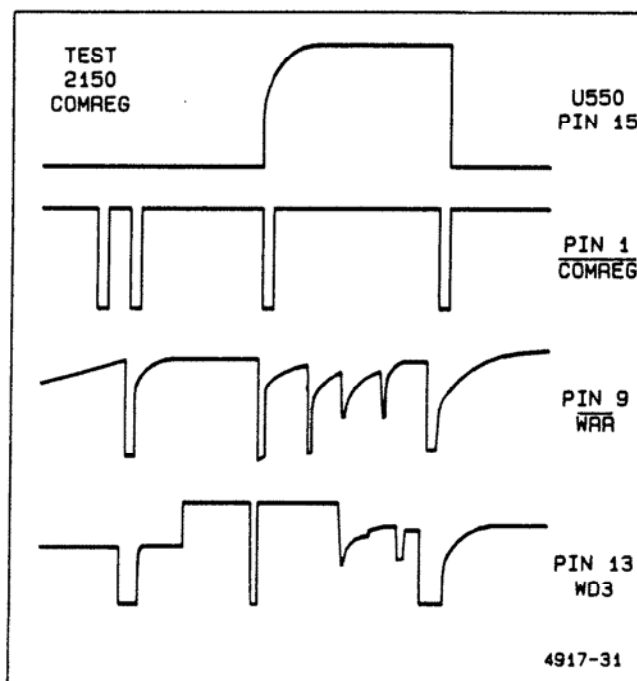

Figure 6-8. Typical Register test waveforms.
2. Run test 2150 in CONTINUOUS mode and check that U550 pin 1 (COMREG) is set LO during the period that the clock line (WWR) to U550 at pin 9 has a LO-to-HI transition. This may be done by saving the COMREG signal in REF1 and displaying it at the same time as the clock pulse on U550 pin 9 is acquired. If these signals are not coincident, then troubleshoot the cause and correct the problem. See Figure 6-8 for typical register test waveforms.